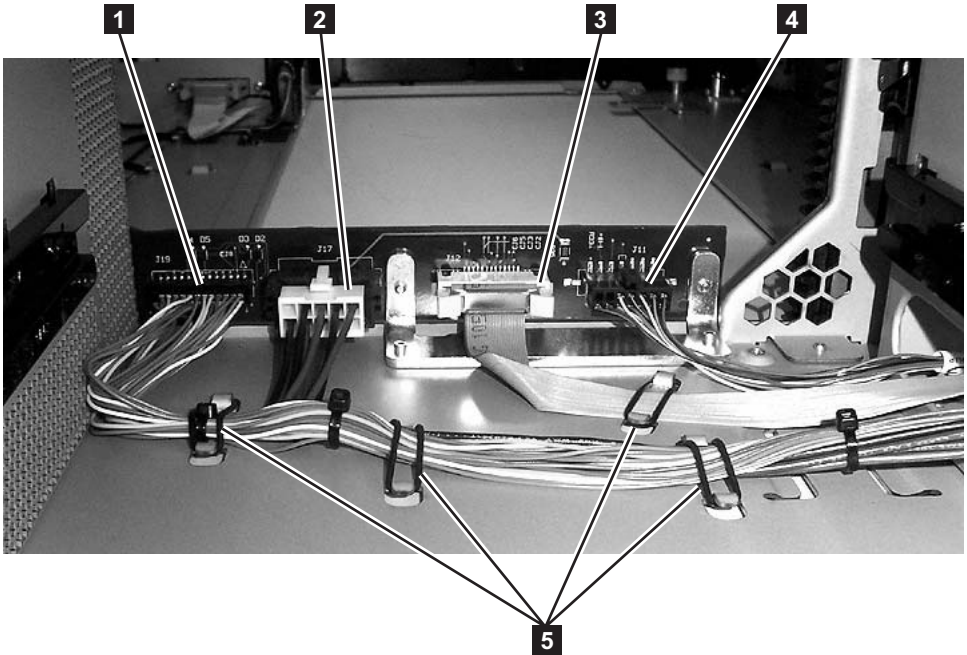
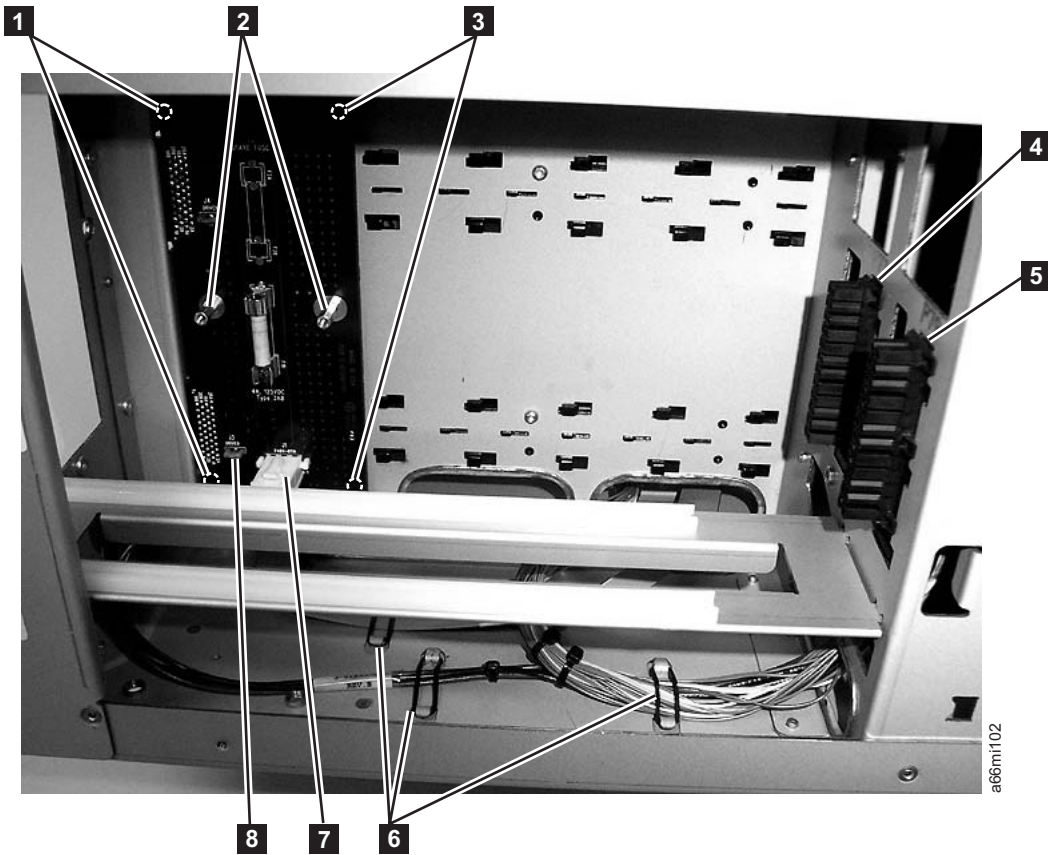

Figure 8-76. Backplane Connector Board (BCB), Rear View
Figure 8-77. Drive Sled Interface Board (DSIB), Side Cover Removed
- c. Remove the cable retainers (**5** in Figure 8-76 on page 8-76 and **6** in Figure 8-77 on page 8-76).
- d. Remove cable connectors J77 (**4** in Figure 8-77 on page 8-76) and J79 (**5** in Figure 8-77 on page 8-76). Pinch the lower part of the connector, press towards the front and slide down to remove the connector from the frame.
- e. Unplug the 2 connectors P17 and P19 from the BCB (see **2** and **1** in Figure 8-76 on page 8-76).
- f. Remove the 2 screws (**2** in Figure 8-77 on page 8-76) and remove the protective cover over the DSIB.
- g. Unplug the 1 power connector P1 (**7** in Figure 8-77 on page 8-76) from the DSIB.
- 1) Unplug connector P2 (**8** in Figure 8-77 on page 8-76) from the DSIB.
- 2) Unplug connector P12 (**3** in Figure 8-76 on page 8-76) from the BCB.
- a. Remove the 2 hex stand-offs (**2** in Figure 8-77 on page 8-76) from the DSIB. This requires a 4.5 mm (3/16-inch) wrench.
- b. The DSIB is held to the frame by slotted pins (**1** and **3** in Figure 8-77 on page 8-76) in all 4 corners of the board.
- 1) Using a flat blade screwdriver, carefully pry the 2 front corners of the board (**3** in Figure 8-77 on page 8-76) from the mounting pins.
- 2) Put finger pressure on the drive connectors on the back of the DSIB one at a time, while you move the board back and forth to pull it from the corner mounting pins (**1** in Figure 8-77 on page 8-76).